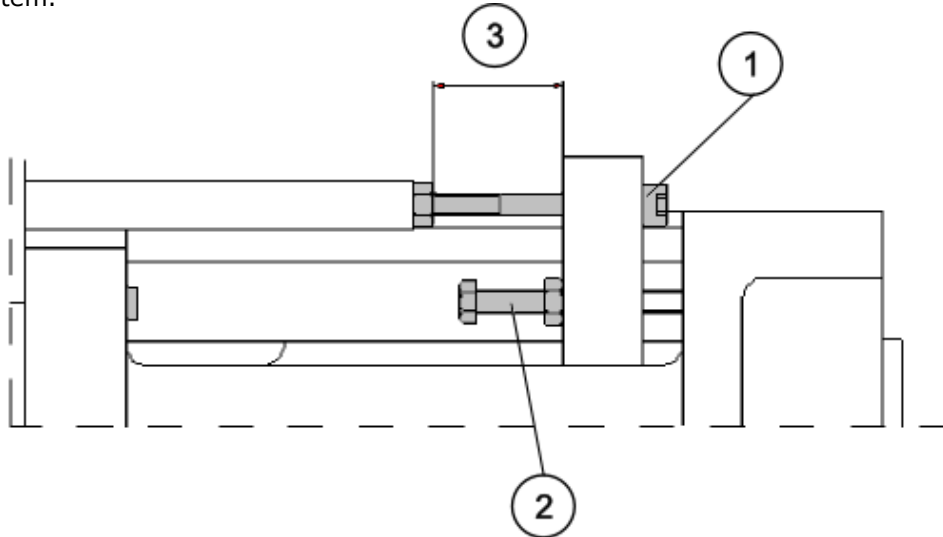

Fig. 12.
Setting the transition on units equipped with pneumatic, electrical or proximity limit switches is performed with a screw, see Fig. 12, Pos. 1, which on return of the feed spindle, retracts the hydrocheck piston rod into position for the next braking. To make it possible to set the transition along the entire stroke length, the unit is delivered with two separate screws of different lengths.
First a somewhat shallower (e.g. 0,5 mm (.019 In)) drilling depth or reverse position is set than that desired in point 2. The drilling depth or reverse position is then set using the adjustment screw, see Fig. 12. Pos. 2, and locked into position with a lock nut. Please note that the impulse from the position sensor must be received before the feed spindle reaches the positive stop.
1. The transition from rapid advance to working feed must be set, see chapter "Settings" paragraph 1, so that a margin of safety is provided allowing the speed to change to working feed before the tool reaches the workpiece. Measure the distance from the leading edge of the tool to the workpiece and set the distance in accordance with, Fig. 12, Pos.3 for a somewhat shorter distance. **Note!** When the unit is equipped with a linear transducer, consideration must be taken to the reaction time of the valve so that the value set using the external control system is sufficiently shorter than the measured distance to allow braking.